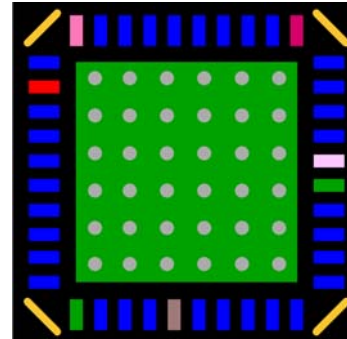

FIGURE 77. RECOMMENDED LAYOUT PATTERN FOR VIAS IN THE IC BOTTOM PAD
6. Place multiple vias under the thermal pad of the IC. The thermal pad should be connected to the ground copper plane with as large an area as possible in multiple layers to effectively reduce the thermal impedance. Figure 77 shows the layout example for vias in the IC bottom pad.